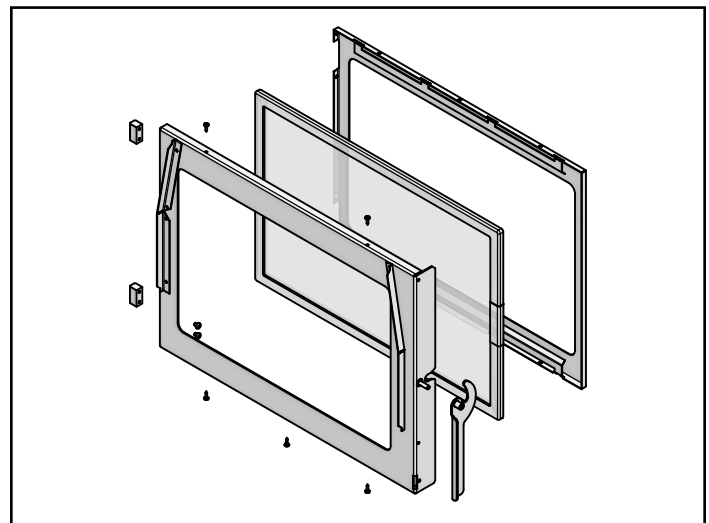

Figure 21.3
2. Using a Phillips head screw driver, remove 4 screws, 2 on the top and 2 on the bottom. Remove metal bracket and then remove the glass (**Figure 21.3**).